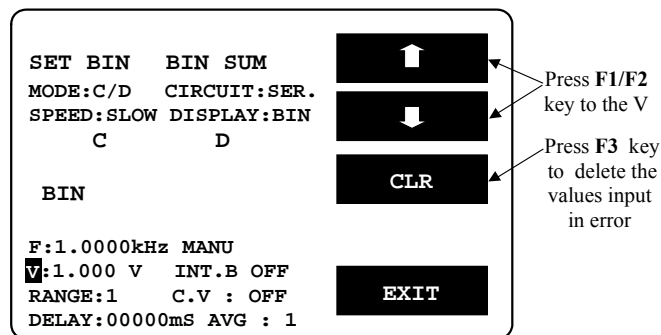

Figure 8-7
- Press  key shown as Figure 8-7 below. For further details, please refer to 4-5-4.